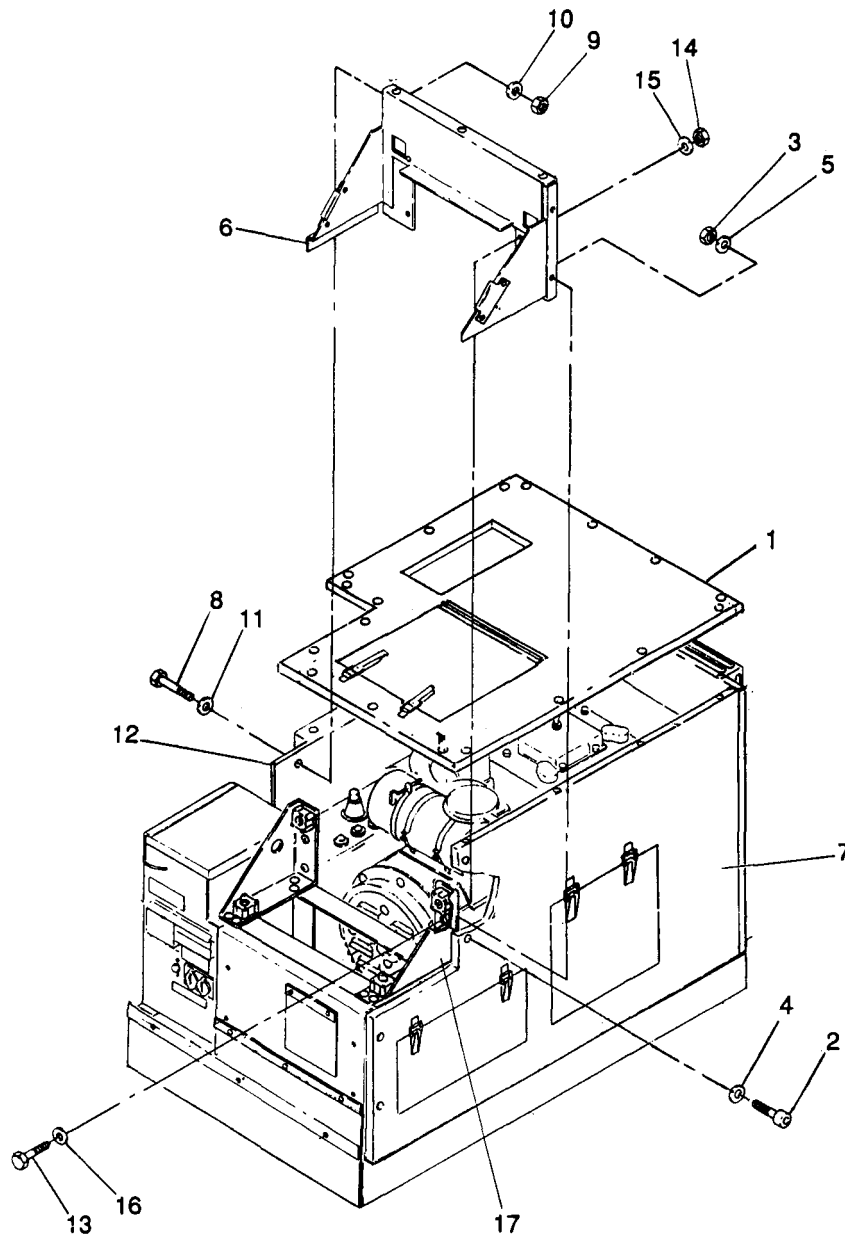

Figure 5-11. Rear Closure Assembly, Removal and Installation
a. Removal. See figure 5-11. Remove rear closure assembly from control box support, side closure assembly and right and top panel assemblies as follows:
(1) Remove top panel assembly (1) as described in paragraph 5-4.
(2) Remove two screws (2) and locknuts (3), and four washers (4 and 5) securing rear closure assembly (6) to right panel assembly (7).
(3) Remove two screws (8) and locknuts (9), and four washers (10 and 11) securing side closure assembly (12) to rear closure assembly (6).
(4) Remove four screws (13) and locknuts (14), and eight washers (15 and 16) securing rear closure assembly (6) to mounting brackets (17) and remove rear closure assembly (6).
b. Installation. See figure 5-11. Install rear closure assembly to control box support, side closure assembly, right and top panel assemblies as follows:
(1) Install four screws (13) and locknuts (14), and eight washers (15 and 16) securing rear closure assembly (6) to mounting brackets (17).
(5) Rear Closure Assembly (refer to figure 5-11, item 6).